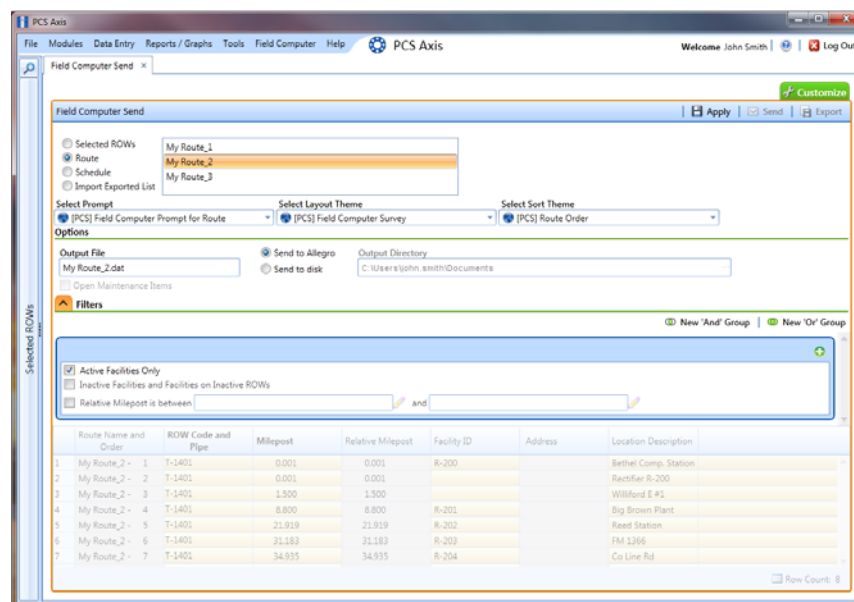

Figure 12-6. Filters
- b Select one or more options in *Filters* and then click  **Apply**. For example, click **Active Facilities Only** to only include active facilities in the grid and in the route sent to the Allegro (Figure 12-6).